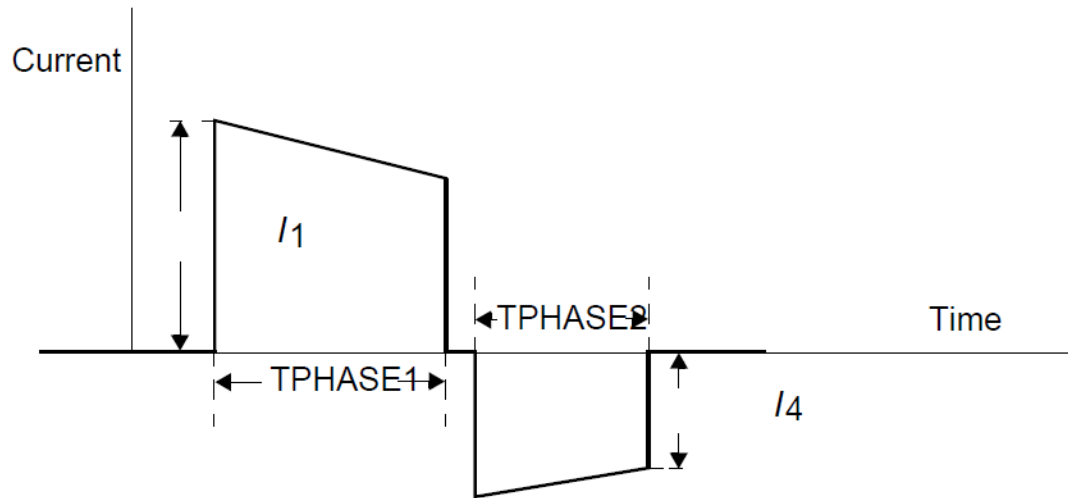

Figure 2.10—Output waveform specifications
- Verify that the waveform meets the specifications as shown in the following Figure 2.10 and Table.